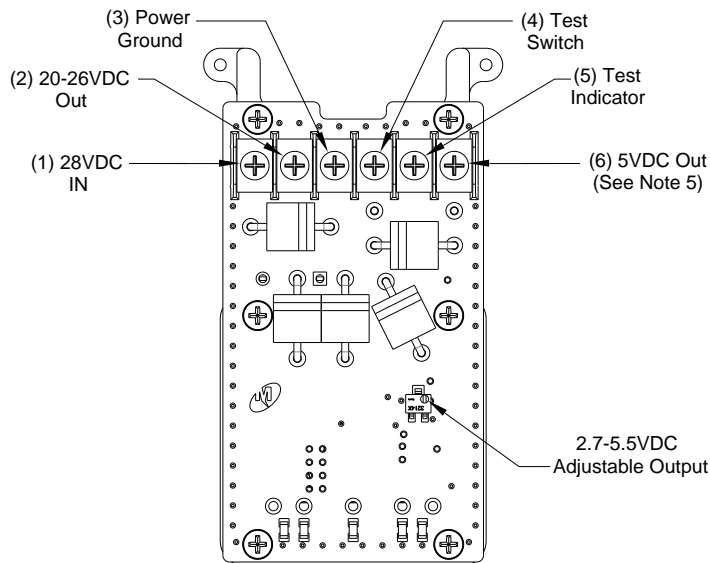

Figure 3.5 Installation Wiring Diagram
- i. Prepare aircraft wiring with mating connector in accordance with Installation Wiring Diagram Figure 3.5
For the TS835-5 model, the Auxiliary Power Output is available and typically used for lighting of required equipment during an emergency. The output is adjustable from 3.0V to 5.5V and provides up to 5A of current. While auxiliary power is available during both normal and emergency operation, an equivalent installation to that shown in Figure 3.5 is recommended such that it is only connected to the required load when primary aircraft power is lost.